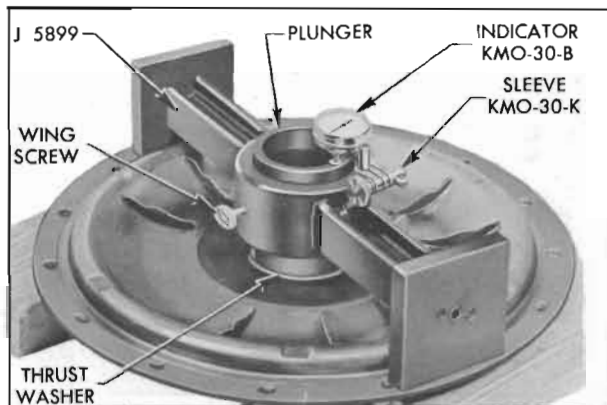

Figure 5-112—Gauge J 5899 on Pump Cover
6. Support the converter pump cover firmly on blocks with inner side up and place the bronze thrust washer in its recess. Remove Gauge J 5899 from pump, *invert it*, and center it on the cover so that it rests squarely on the gasket surface. See Figure 5-112.
squarely against the upper end of clearance gauge plunger. Set dial at zero. See Figure 5-112.